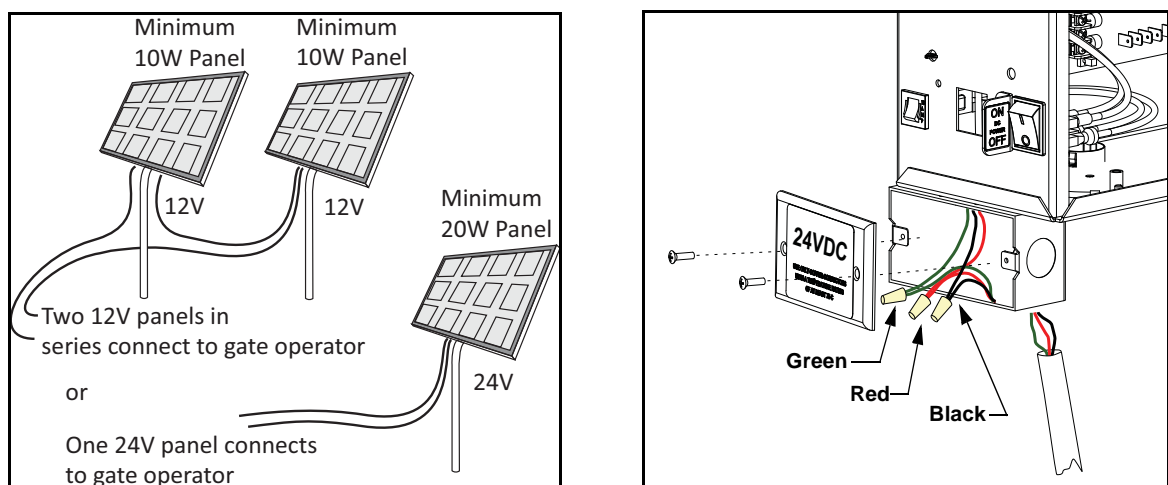

Figure 2-4. Solar Panels and Wiring Connections
- 20WATT solar panel system (minimum requirement). See Figure 2-4.